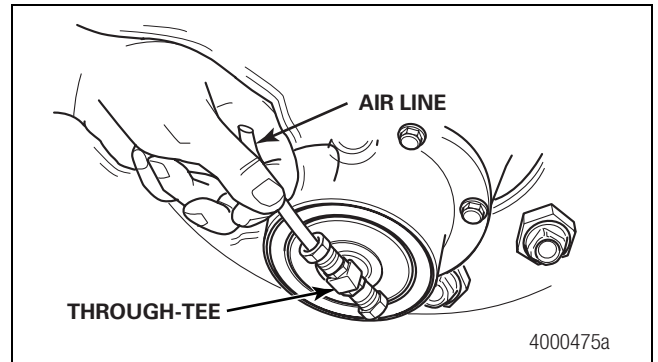

Figure 3.3
5. Check all of the through-tees by pushing a short piece of tire inflation system air line into the through-tee. Air should flow from the through-tees. Figure 3.3.